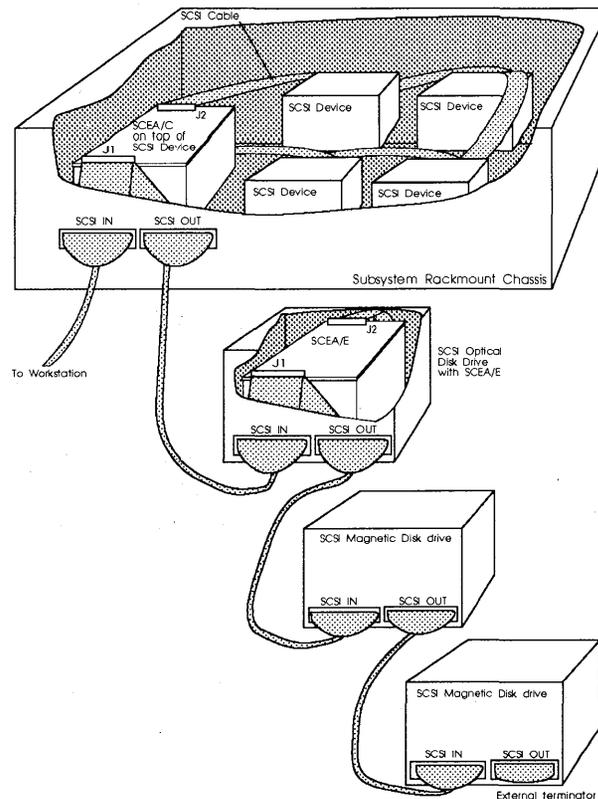

Figure 5: Cabling example from inside Subsystem
- 2 Connect one end of a SCSI cable to the SCEA at J2, Device SCSI port; pin 1 of the cable and pin 1 of J2 **must** align to prevent damage to the system. See Figure 5.
- 3 Connect the other end of the cable to the SCSI device (align pin 1's). Up to seven devices may be installed by correctly cabling to other SCSI devices. Figure 5 shows the SCEA/C inside the subsystem rackmount chassis with devices connected and SCEA/E inside the optical drive.